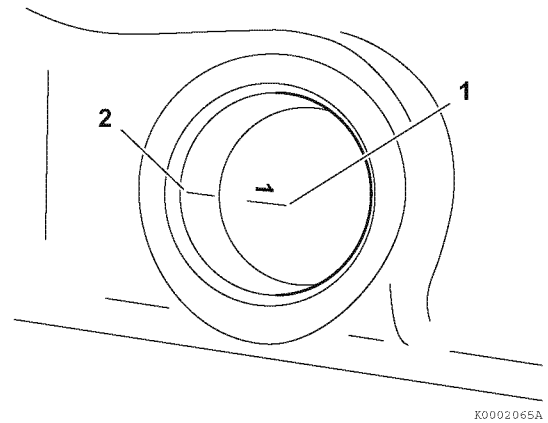
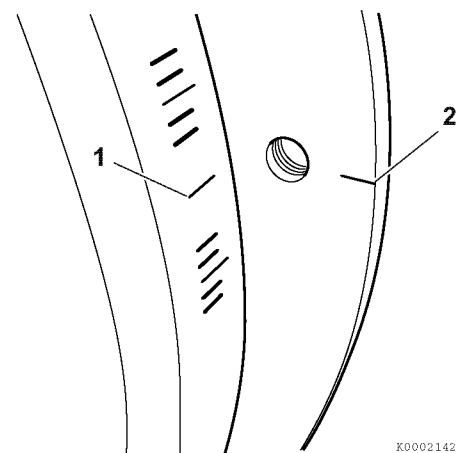
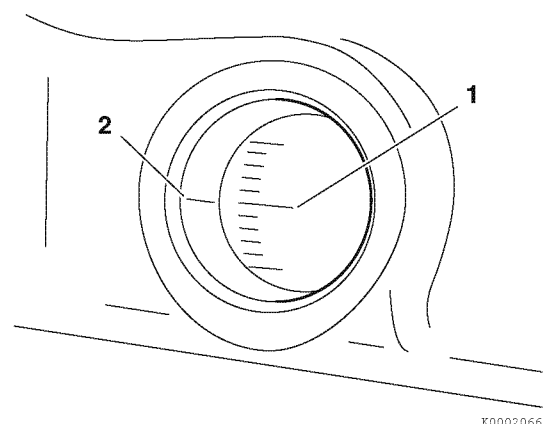

Figure 7-32
Figure 7-33
Figure 7-34
9. Highlight the timing reference mark on the flywheel housing (2, **Figure 7-32**) or engine back plate (2, **Figure 7-33**). Highlight the TDC (Top Dead Center) mark (1, **Figure 7-32**), (1, **Figure 7-33**) on the flywheel.
10. Highlight the target timing mark (1, **Figure 7-33**), (1, **Figure 7-34**) on the flywheel timing grid. The fuel injection timing varies depending on each specification. For details, refer to the machine manual.
18. Check the position of the flywheel target timing mark (1, **Figure 7-34**) on the flywheel grid in relation to the timing reference mark (2, **Figure 7-34**) on the flywheel housing or back plate. If the two marks are aligned, the fuel injection timing is correct. If the marks do not align, the fuel injection timing must be adjusted. *See Adjusting Fuel Injection Timing on page 7-23.*